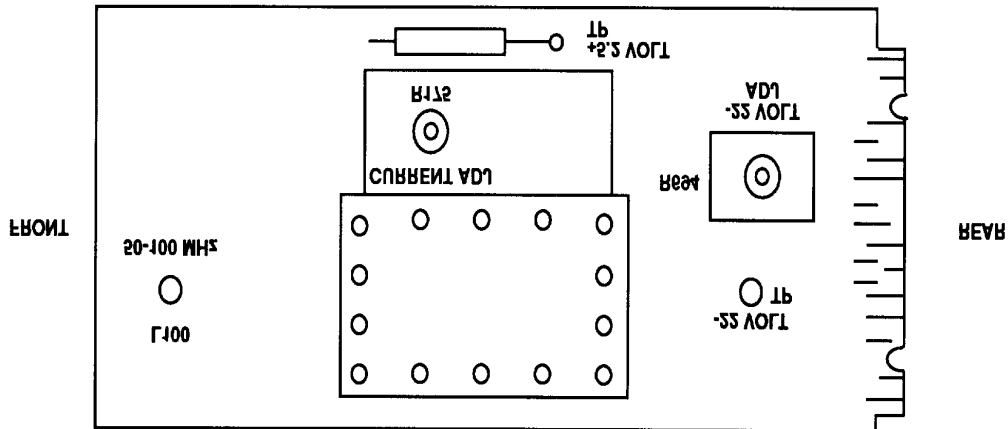

Figure 2. Main circuit board adjustment locations - right side.
(7) Adjust **OUTPUT AMPLITUDE VOLTS P-P** control to **3.0.**
(8) Repeat (3) through (6) above.
(9) Adjust **OUTPUT AMPLITUDE VOLTS P-P** control to **0.5.**
(10) Repeat (3) through (6) above.
**b. Adjustments.** Adjust CURRENT ADJ R175 (fig. 2) until third harmonic is at least 40 dB down from reference while assuring that second harmonic amplitude remains 35 dB down from reference. If second harmonic is equal to or greater than 35 dB down, do not adjust CURRENT ADJ R175 (fig. 2) to reduce second harmonic at expense of increasing the third (R).